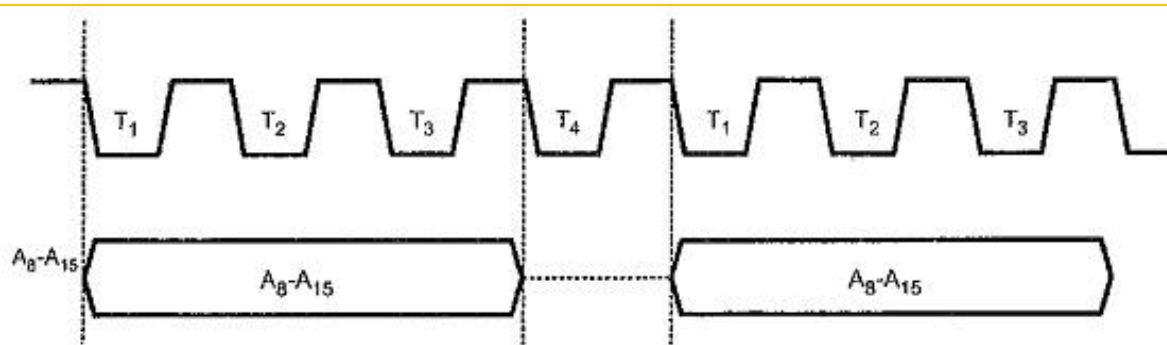

Fig. 1.12 Higher byte address on A_8-A_{15}
- ❖ The higher byte of address is available on the $A_8 - A_{15}$ bus during **T1, T2 and T3** – states of each machine cycle, except **bus idle** machine cycle, as shown in Fig. 1.12.